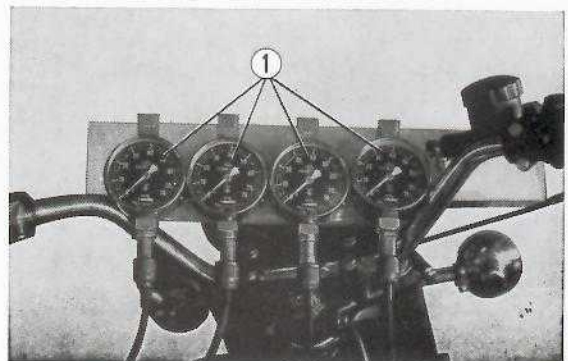

Fig. 6-18 ① Vacuum gauge
- c. The standard vacuum pressure reading should be 20~22cmHG. in all four gauges. If any of these gauges indicates pressure higher or lower than the standard range adjust it with the throttle stop screw. Turning the stop screw clockwise will reduce the pressure and turning it counter-clockwise will bring the pressure higher. (Fig. 6-18)